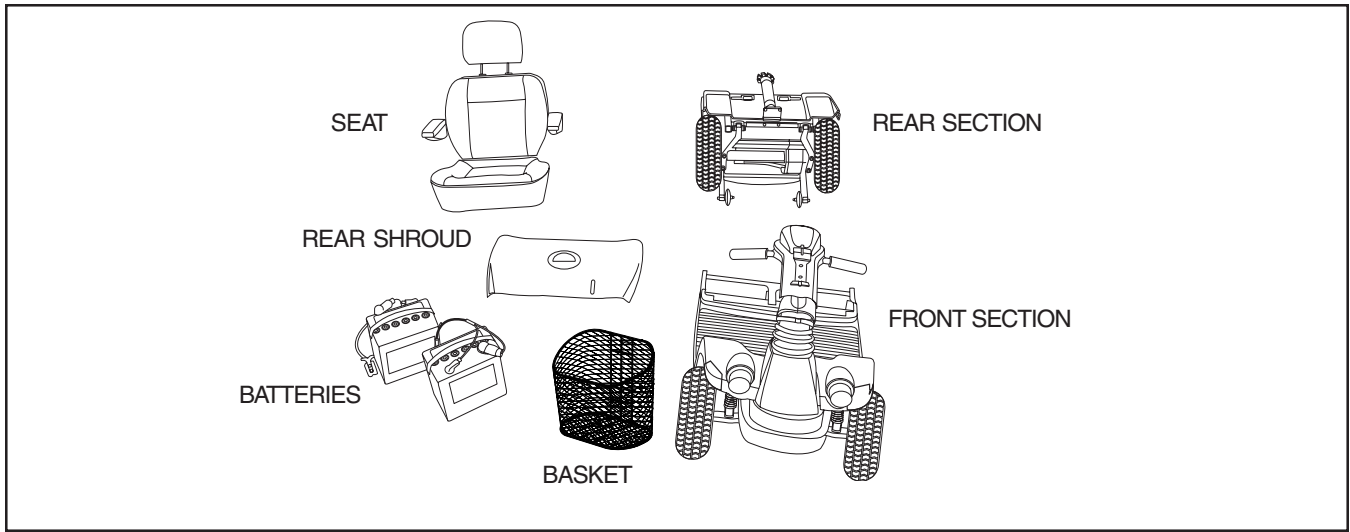

Figure 16. The Hurricane Disassembled
1. Push in the toggle latch release button while pulling back the toggle latch. See figures 16 and 18A.